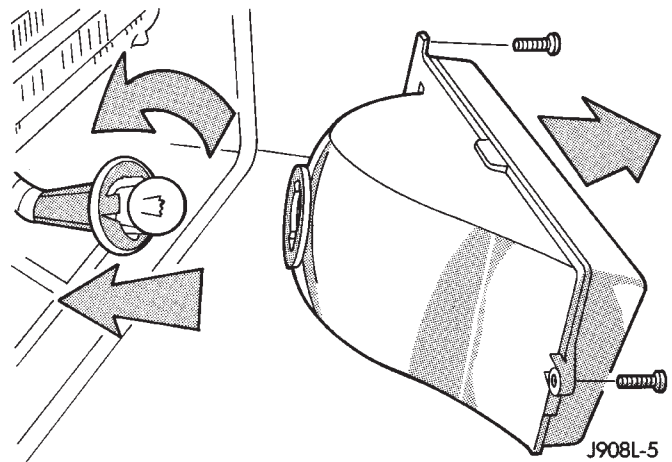

Fig. 21 Park/Turn Signal Lamp Housing Removal
- (3) Remove screws from the park/turn signal lamp housing (Fig. 21).